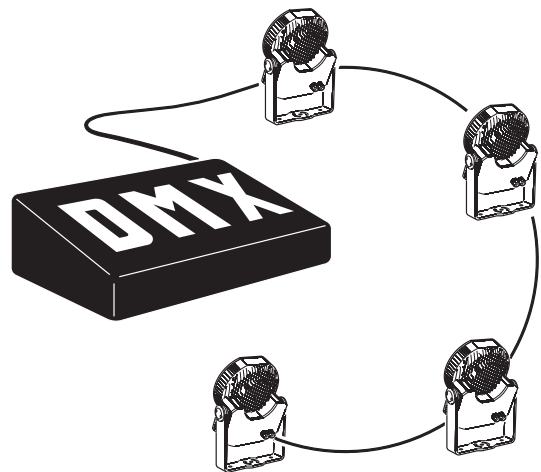

Figure 11: DMX link
- Fixtures must be 'daisy-chained', i.e. the data cable must be connected in one single chain of fixtures as shown in Figure 11.